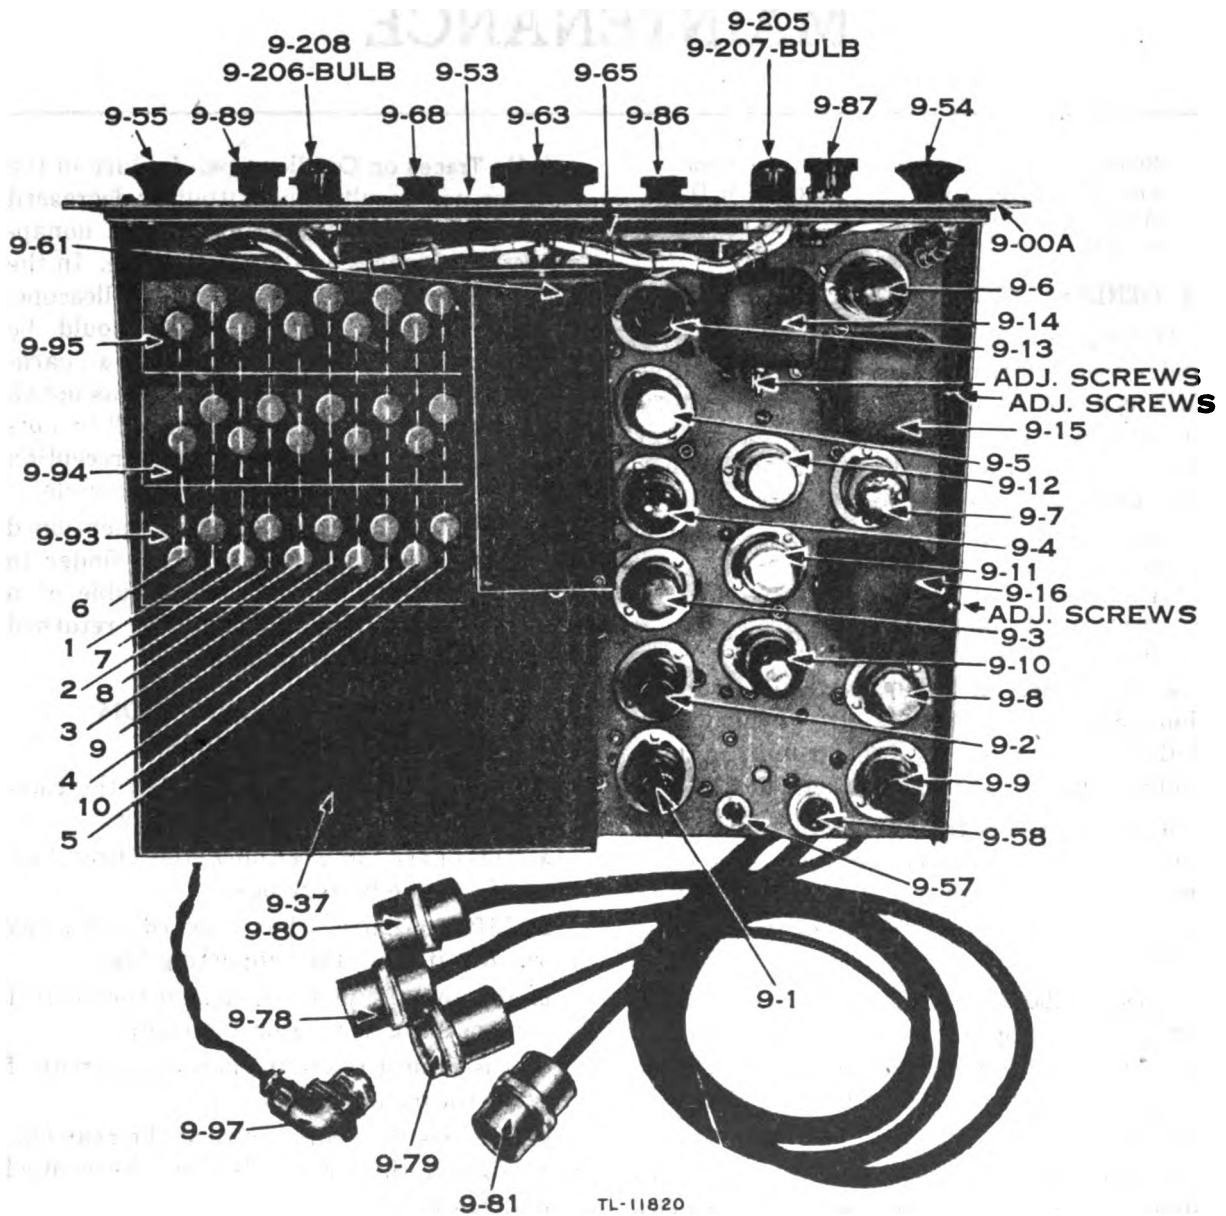

Figure 36. Radio Receiver BC-976-A, top view.
NOTE: It is advisable that the operator go back over the three i-f transformers for final precision adjustment while the signal generator output remains connected to the signal grid of the 1st detector tube 9-5. For location of i-f trimmer adjustment screws see figure 36.
(1) Refer to figure 36. The three cover cans, 9-95, 9-94, and 9-93 contain the trimmer capacitors and tuning inductors for the oscillator, 1st detector and r-f sections, respectively. On the top of each of these three cans are small, round, metal buttons which must be removed to make any r-f alignment adjustment.
(1) The entire oscillator tuning section contained in cover can 9-95 must be tuned very carefully throughout before touching any of the other sections.
(2) Ground the signal generator to the receiver chassis and connect the high potential side of the generator to the sense antenna input receptacle 9-57.
(3) Turn the BAND SW selector knob 9-68 on the front of the receiver panel to select the 2.0-2.8 mc frequency band.
(4) Adjust the main tuning dial pointer, if necessary, to make sure that when the TUNING knob 9-63 has turned the pointer to each extreme end, the hairline on the pointer is coincident with, or equally distant from each reference line at the bottom sides of the dial. To make this adjustment, set the hairline pointer to the reference line on the extreme right and, while pressing the pointer firmly against the dial in this position, turn the main TUNING knob to the extreme right. Release the pointer and turn the TUNING knob to the extreme left. If the hairline does not now coincide with the left hand reference line it will be necessary to again adjust the pointer mechanically as above until the hairline is equally distant from the reference lines at each extreme position of the TUNING knob.
(5) Carefully set the signal generator and the dial pointer on the receiver to 2.8 mc.
(6) Refer again to figure 36. Tune the No. 1 position trimmer in can 9-95 for maximum trace height on the oscilloscope. Reduce the signal generator output if this maximum is outside the range of the scope.
(7) Carefully set the signal generator and the dial pointer on the receiver to 2.0 mc.
(8) Tune the inductor in position No. 6 on this can for maximum trace height on the scope.
(9) Now reset the signal generator and the receiver dial pointer to 2.8 mc. Check and again adjust, if necessary, the No. 1 trimmer for maximum trace height.
(10) Return the receiver pointer and generator to 2.0 mc. Check and adjust if neces-
(1) Refer to figure 36. Cover can 9-94 contains the 1st detector section and can 9-93, the r-f section.
(3) Turn the BAND SW selector knob 9-68 on the front of the receiver to select the 2.0-2.8 mc frequency band.
(4) Carefully set the signal generator and the dial pointer on the receiver to 2.8 mc.
(5) Refer to figure 36. Adjust the trimmer in position No. 1 in both cans 9-94 and 9-93 for maximum trace height on the scope. Reduce the signal generator output if the traces extend beyond the range of the oscilloscope screen.
(6) Carefully set the dial pointer on the receiver and the signal generator to 2.0 mc.
(7) Tune the inductor in position No. 6 in both cans 9-94 and 9-93 for maximum trace height.
(8) Reset the signal generator and dial pointer to 2.8 mc and check the tuning of trimmer No. 1 in both cans. Adjust again, if necessary, for maximum trace height.
(9) Return the generator frequency control and dial pointer to 2.0 mc and check and adjust, if necessary, the inductance at the low end of this band.